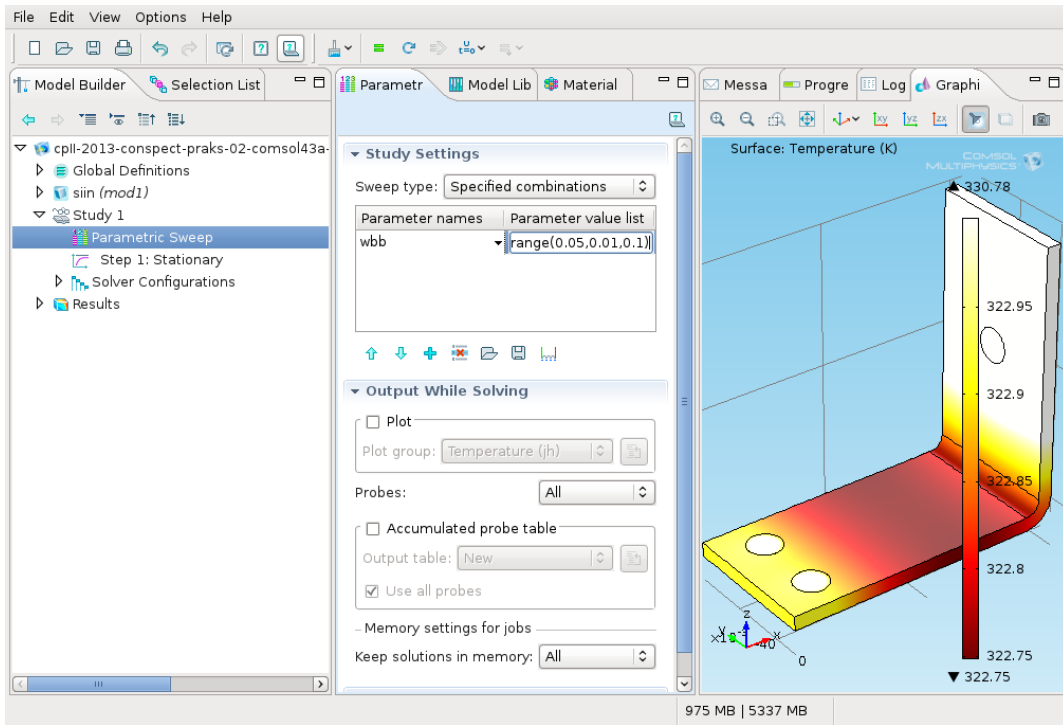

Figure 29: Entering the range as a function.
- enter *range(0.05,0.01,0.1)* into the *Parameter value list* column (Fig. 29);